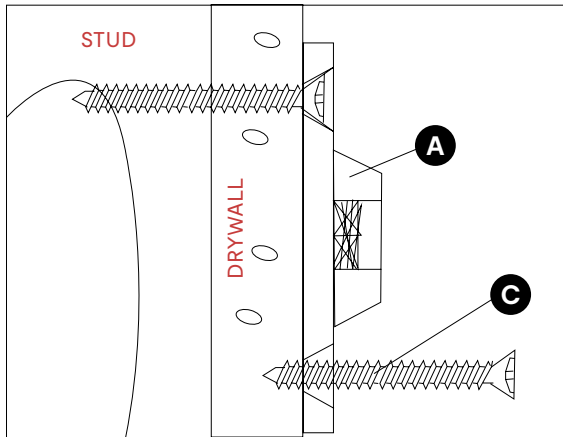
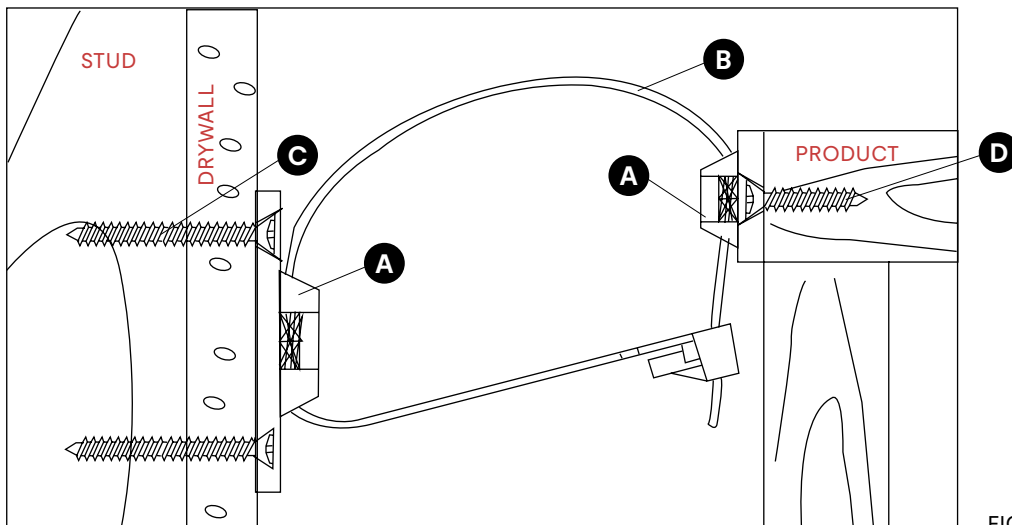

FIGURE 2
FIGURE 3
**MOUNTING THE WALL-SIDE BRACKET:** Position the wall-side bracket along the selected stud mark so that it will be adjacent the furniture-side bracket when the furniture item is moved to its final position. The wall-side bracket should be about ONE inch lower than the furniture-side bracket (See Figure 3). Use the TWO long screws to secure the wall-side bracket to the wall. Remember to position the wall-side bracket vertically so that both screws will engage the selected wall stud (See Figure 2).